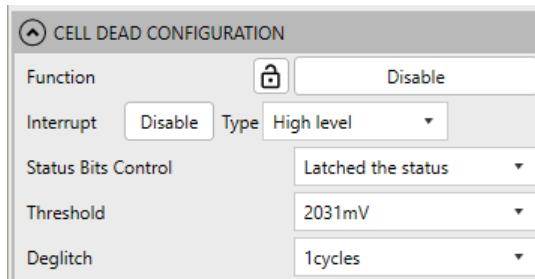

Figure 27: Cell Dead Configuration
19. Figure 27 shows the Cell Dead Configuration settings in the GUI.